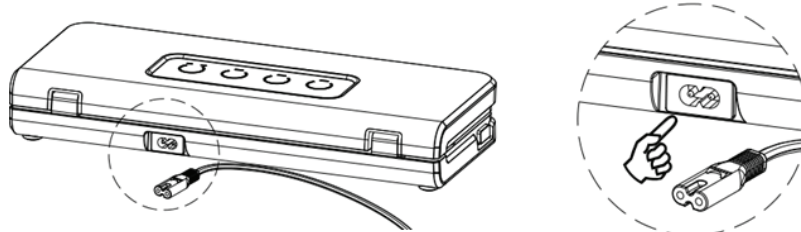

Figure 1
1. Plug the power cord into a power outlet (as shown in Figure 1);